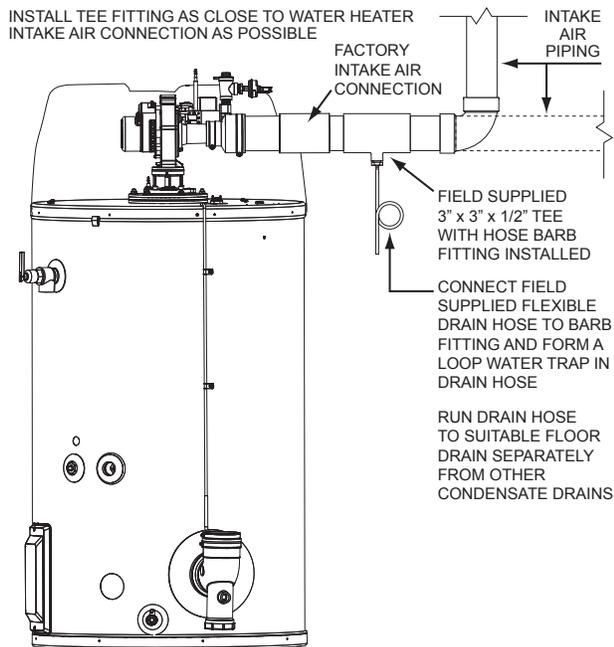

Figure 20. Intake Air Condensate Tee Installation
9. A field supplied condensate Tee fitting and drain hose shall be installed in the intake air piping near the water heater in colder climates with heavy snow accumulations and in areas that regularly experience high humidity. The drain hose should be routed to an adequate floor drain separate from any other condensate drains. See *Figure 20* (page 25).
Installations with any of these conditions are required to provide a moisture drain with a trap that flows to a waste drain. See *Figure 20*. A horizontal section of the air inlet pipe, near the heater should include a 3" x 3" x 1/2" tee and a hose barb fitting to drain the water. The tee should be as close to the heater as is practical. The drain tubing in any installation should have a loop trap and flow to an appropriate waste drain. The air intake drain line must be entirely separate from the exhaust vent outlet condensate line.